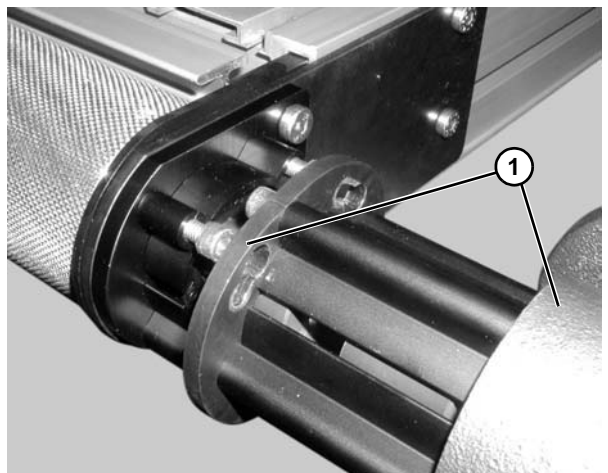

Figure 84
- c. Rotate and remove the gear motor and guard assembly (**Figure 84, item 1**).